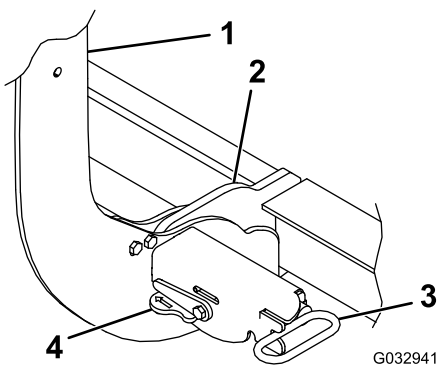

Figure 31
3. Turn the levers on the couplers to the ON position (Figure 31).
6. Ensure that both coupler spring pins have fully engaged the coupler (Figure 31).